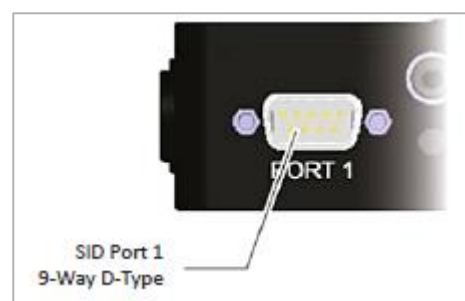

Figure 3
2.2 Connection of SID (Figure 3)